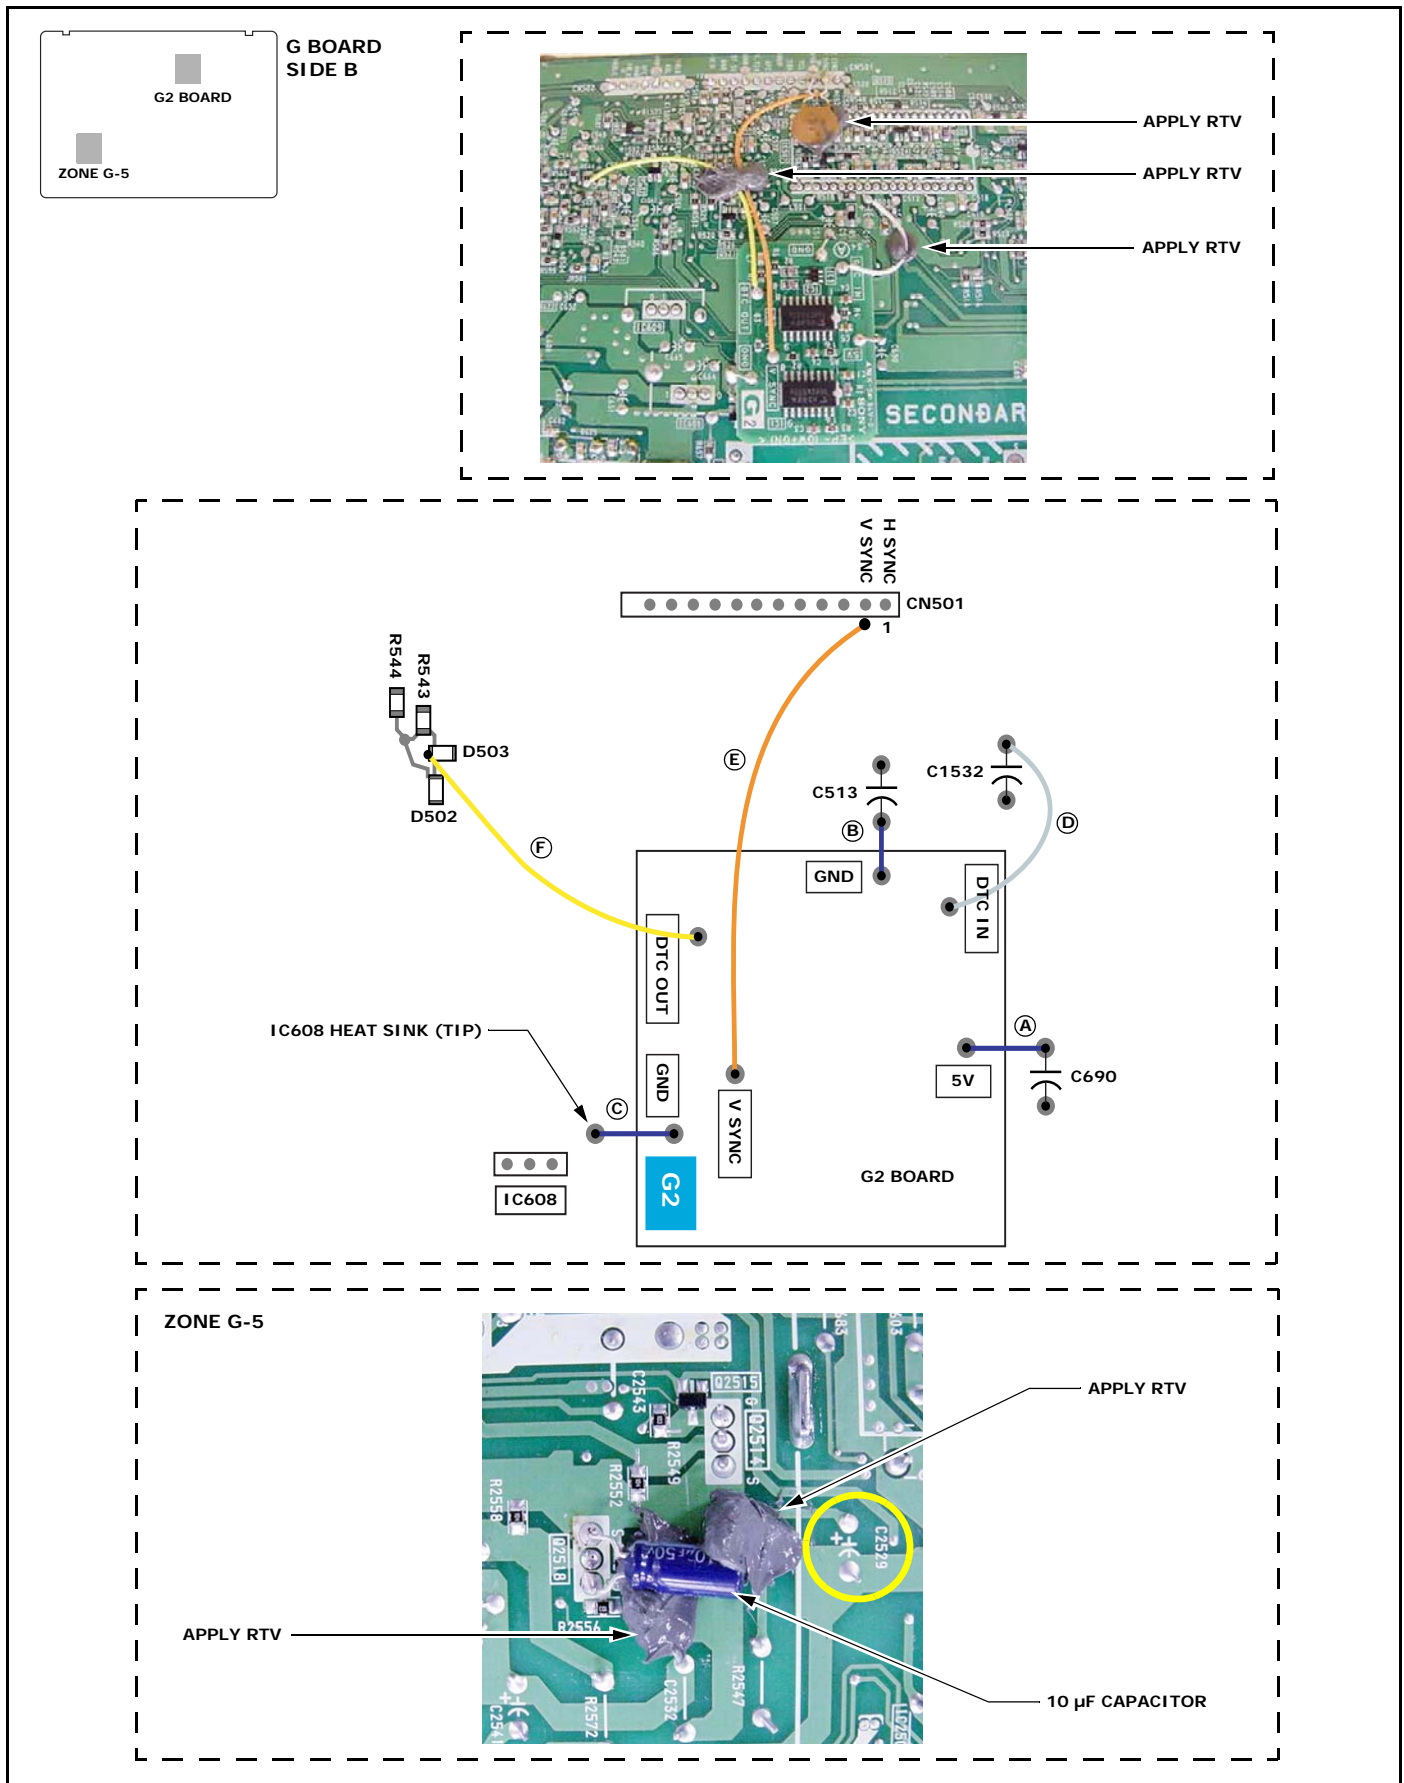

Figure 1
(See Figure 1.)
3. Solder a 10 μ F capacitor between G-S of Q2518 (side B, zone G-5) with the negative (-) side of the capacitor connected to the source (S) of Q2518. (See Figure 1.)